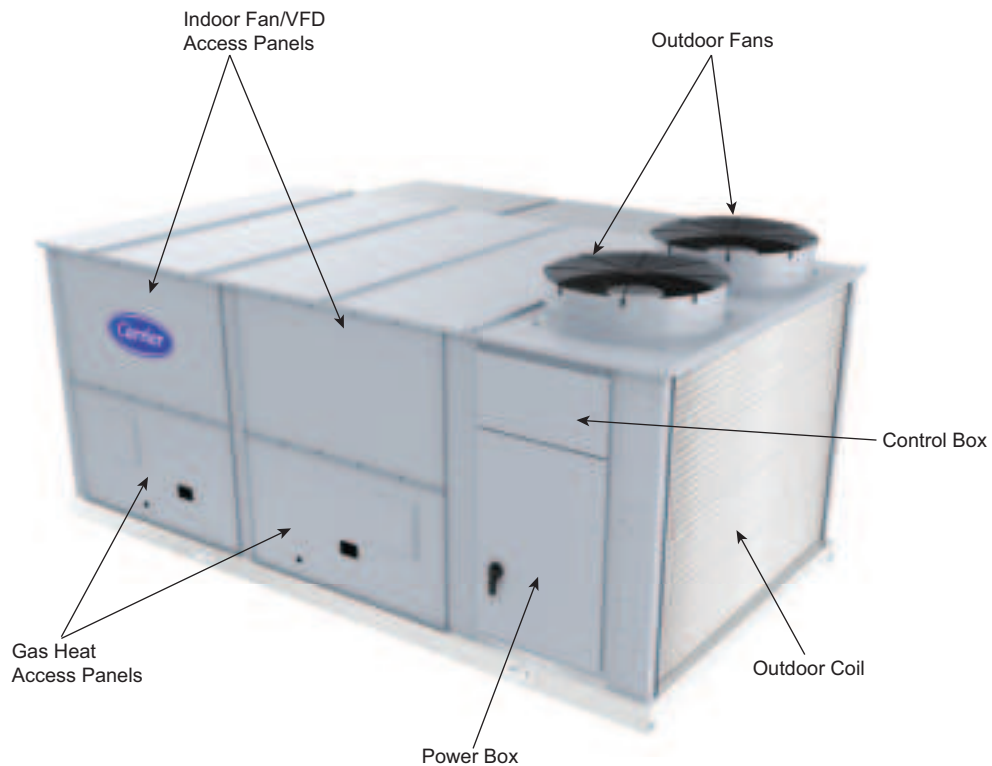
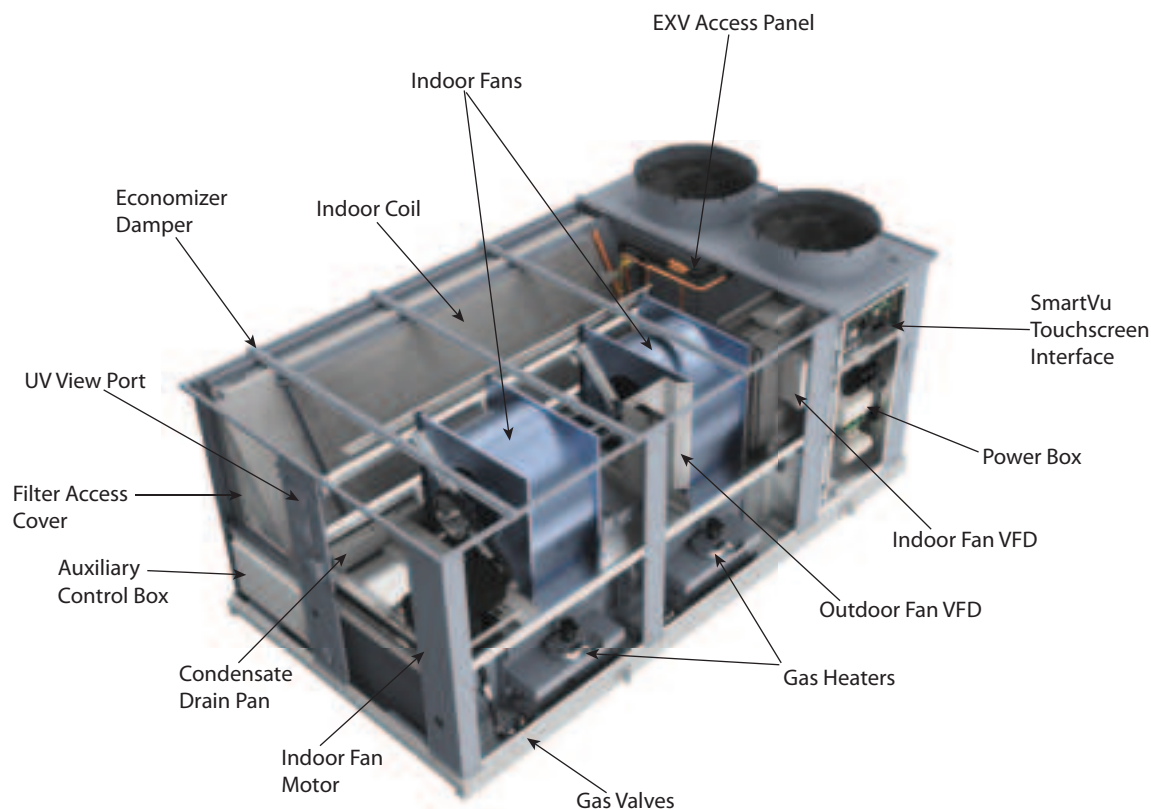
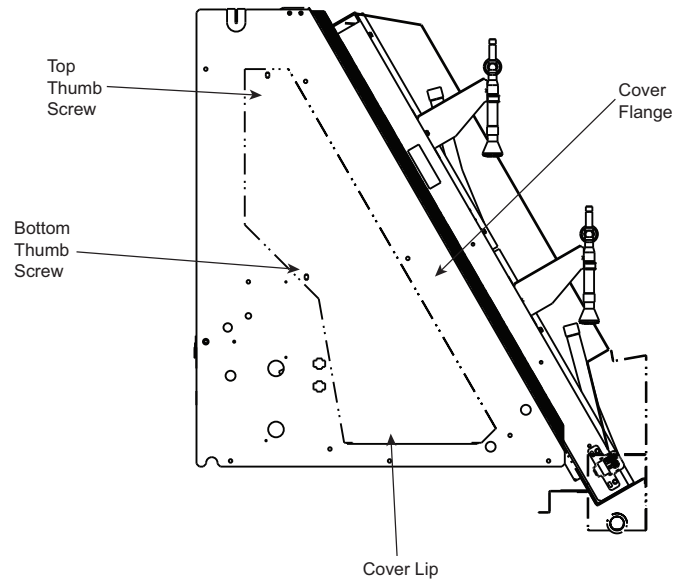

Fig. 1 — 48K Back Maintenance Access (Size 20-34 Shown)
Fig. 3 — 48K Key Component Locations (Size 20-34 Shown)
Fig. 8 — Filter Access Cover
See Fig. 1 and 2 for maintenance access. See Fig. 3 for key component locations.
2. Remove the bottom thumb screw from the filter access cover. Save screw. Refer to Fig. 3 for filter access cover location and Fig. 8 thumb screw locations.
5. To reinstall the filter access cover, start by inserting the filter access cover lip behind the side panel rail. See Fig. 8 for cover lip location.